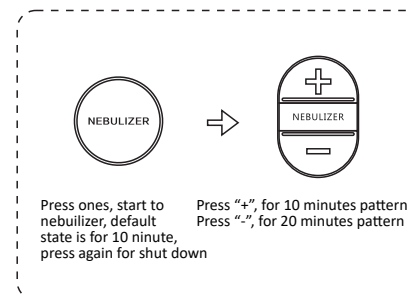

Figure 7.7.1
- Press "atomization" key to start the higher grade; press atomizing volume regulation key "+". To adjust it to the lower grade, press atomizing volume regulation key "-". See fig. 7.7.1.